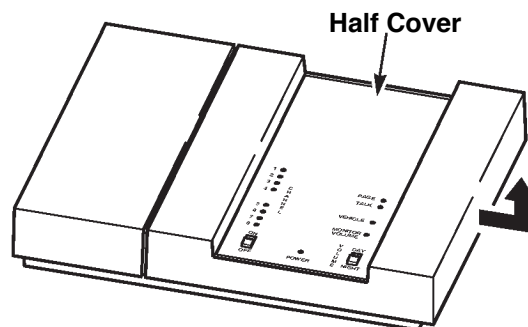

Figure 16.
2. Pull outward on the right side of the base station half-cover and then lift and remove the cover. See Figure 16.